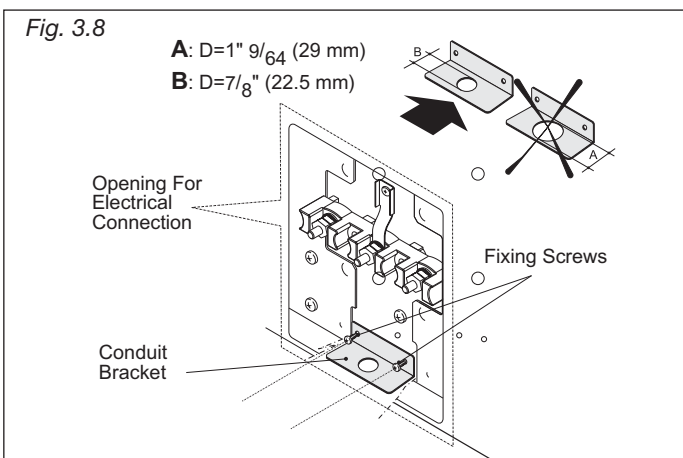

Fig. 3.9
4. Feed 1/2" (1.3 cm) trade size **Conduit** through the hole in the **Conduit Bracket** and secure to the **Conduit Bracket** with a **Conduit Clamp** (Figure 3.9).